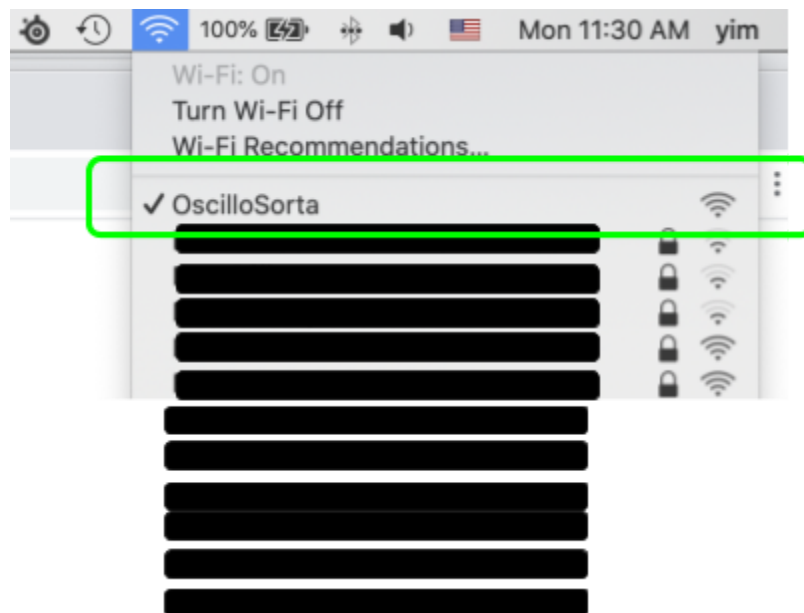

Figure 4: Network menu items on a Mac OSX.
- 2) Turn on your phone or laptop and view the network options as shown in Figure 4. If the ESP32 has the program downloaded, and is on, you should see the red light on. You should see the OscilloSorta as an unlocked option. Select it. If you are sure the OscillosSorta SSID is not appearing anywhere, contact the teaching staff.